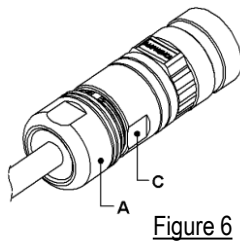

Figure 6
- 13) Thread and tighten "seal-nut" (A) onto "backshell" (C) as shown in figure 6. Use a 24mm open end wrench for the backshell, and a 25mm open end wrench for the seal-nut.